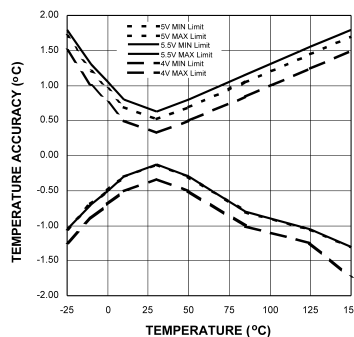
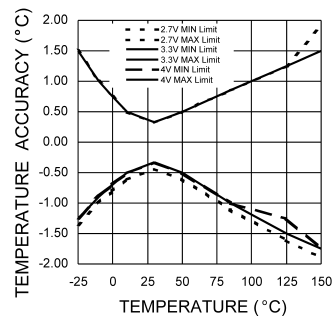

Figure 2. Accuracy vs Temperature with $+V_S = 5V$
Figure 3. Accuracy vs Temperature with $+V_S = 3.3V$
- (1) Typical values are at $T_A = 25^\circ C$ and represent most likely parametric norm.
- (2) Limits are guaranteed to National's AOQL (Average Outgoing Quality Level).
- (3) The limits found in Table 2 supersede the limits shown in the Electrical Characteristics Table. The Accuracy specification includes errors due to linearity, offset and gain. The accuracy specification includes effects of self heating with negligible digital output loading. Pull-up resistors should be maximized (10k typical recommended), so that self heating due to digital output loading is negligible.
- (4) Limits at intermediate temperatures can be calculated using a straight line interpolation as shown in Figure 2 and Figure 3.
- (5) Linearity Error is defined as the worse case difference of an actual reading to that of a calculated reading derived from the straight line whose endpoints are measured at $30^\circ C$ and $125^\circ C$ for the range of $30^\circ C$ to $125^\circ C$ or whose endpoints are measured at $30^\circ C$ and $-25^\circ C$ for the range of $30^\circ C$ to -25° .
- (6) Offset Error calibration should be done at $30^\circ C$. The residual error of the transfer function is then equivalent to the Accuracy Limit minus the Offset Limit. This does not take into account the power supply sensitivity of the offset error. Nor, does it take into account the error introduced by the calibration system used.
- (7) This specification is provided only to indicate how often temperature data is updated. The LM92 can be read at any time without regard to conversion state (and will yield last conversion result). If a conversion is in process it will be interrupted and restarted after the end of the read.
- (8) 12 bits + sign, two's complement
- (9) Default values set at power up.